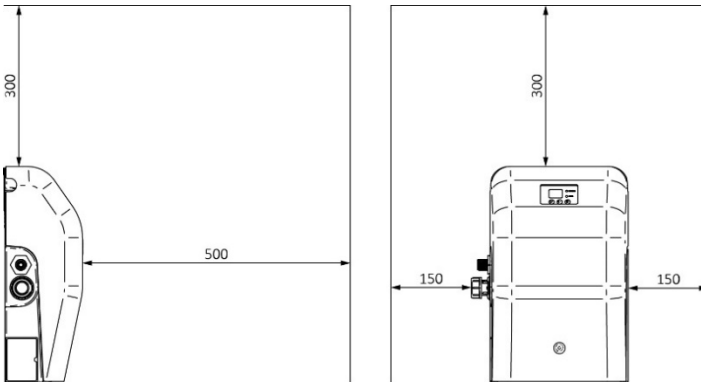

Fig. 2
4.12 **Access and minimum clearance requirements:** For emergencies and maintenance the Unit must be easily accessible and have the minimum clearance around it as laid out in Fig. 2. Additional access to the front of the unit will be required to operate the keypad and view the display.